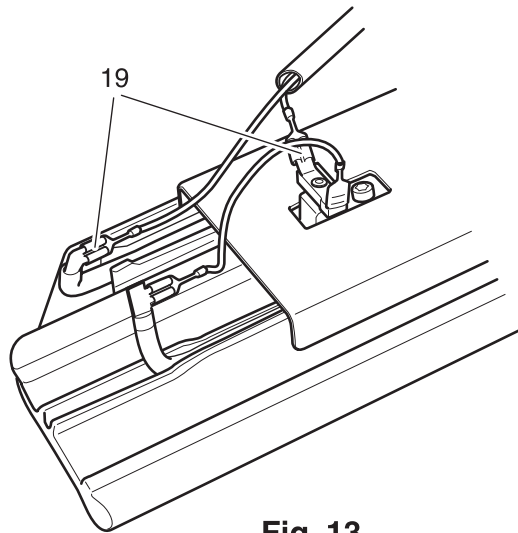

Fig. 13
- Make sure there are all insulating caps (4 caps on the front and 5 caps on the rear) (fig. 13).